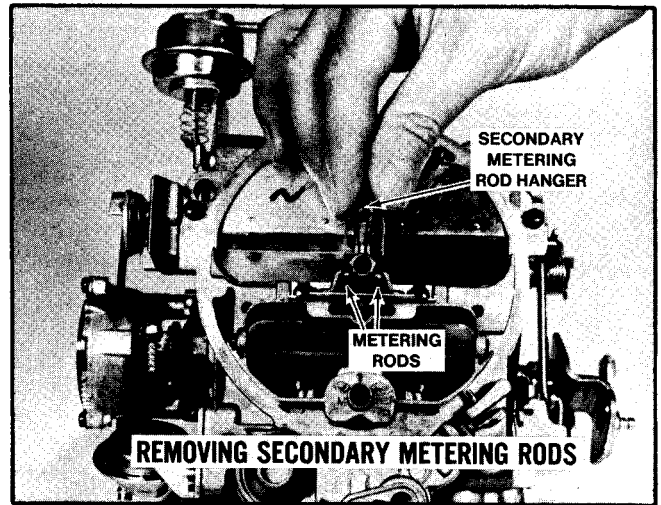

Figure 45 Secondary Metering Rod Removal
6. Remove secondary metering rods from secondary orifice plates by removing small screw in the secondary metering rod hanger (Figure 45). Lift holder and rods as an assembly straight up from the carburetor. Metering rods may be disassembled from the hanger by rotating ends out of the holes in the end of the hanger.